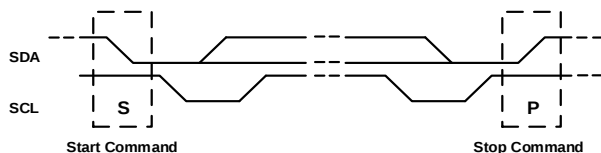

Figure 38: Start and Stop Commands
Start (S) and stop (P) commands are signaled by the initiator device, which signifies the beginning and the end of the I²C transfer. A start command is defined as the SDA signal transitioning from high to low while SCL is high. A stop command is defined as the SDA signal transitioning from low to high while SCL is high (see Figure 38).